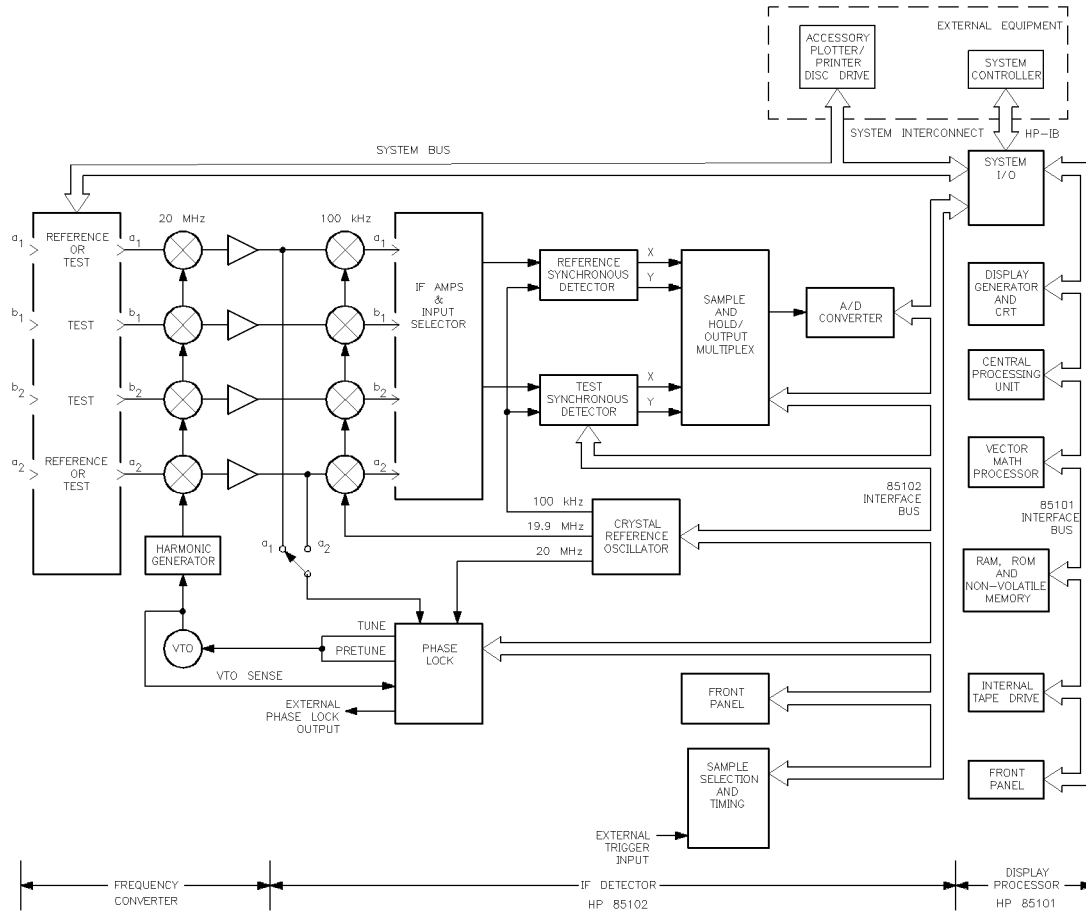
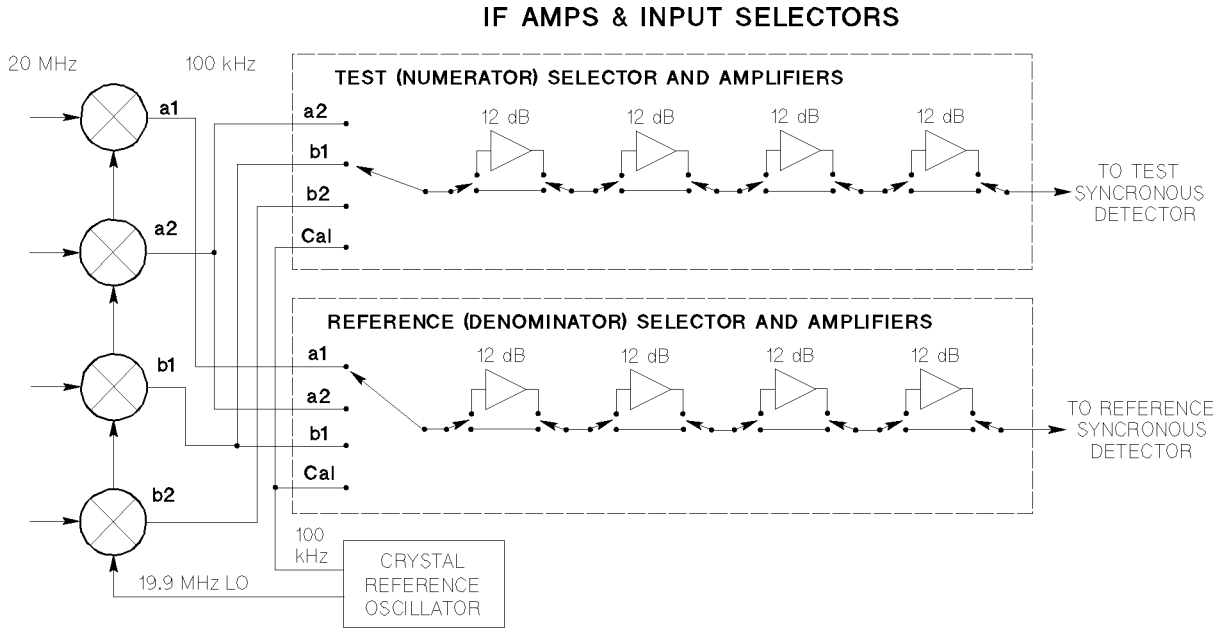

Figure 17-12. Simplified Block Diagram of the HP 8530A Receiver
Figure 17-13. Gain Stages in the IF section
- Changes the amount of IF gain so the detectors and A/D converter operate with optimum accuracy (refer to Figure 17-12).
Why the problem occurs. When the receiver measures a data point, automatic IF gain control detects the power at the input. Assume (for example) that this is a very low power level. The gain control increases IF gain to amplify the signal. This allows the synchronous detectors and A/D converter (shown in Figure 17-12) to operate in their most accurate range. Now assume the receiver measures the next data point, and the power level is much higher. The IF gain stages are still set for the previously-measured low power level. When the large signal arrives, it is amplified greatly and will often overdrive the detectors. The error message “IF OVERLOAD” appears when this occurs.
Figure 17-13 shows a block diagram of the IF gain stage.
Note the block in Figure 17-12 titled “IF AMPS & INPUT SELECTOR,” it is this section we will be looking at more closely in Figure 17-13.
You will notice that, in Figure 17-12, the 100 kHz mixers are shown as having only a single output each. This is not really true. Figure 17-13 shows a closer representation of the actual circuitry. The different signals (a1, a2, b1, and b2) are split off and routed to *input selectors*. When you select a specific parameter, a ratio such a b1/a1 is selected. The receiver automatically selects the correct positions on the input selector to send the b1 signal to the test channel, and a1 to the reference channel.